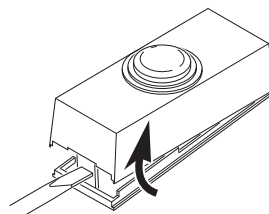

Figure 5
2. Remove back of push button by pushing in tab on bottom with a small screwdriver (see Figure 5).